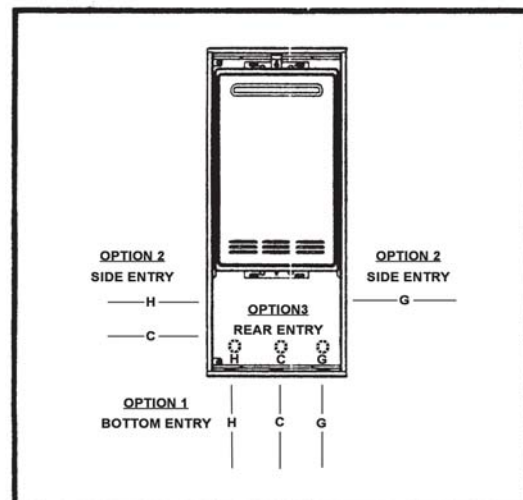

Figure 2
3. Drill holes in the recess box for the gas, cold water inlet, and hot water outlet. Suggested options for the location of these holes are shown in Figure 2, below.